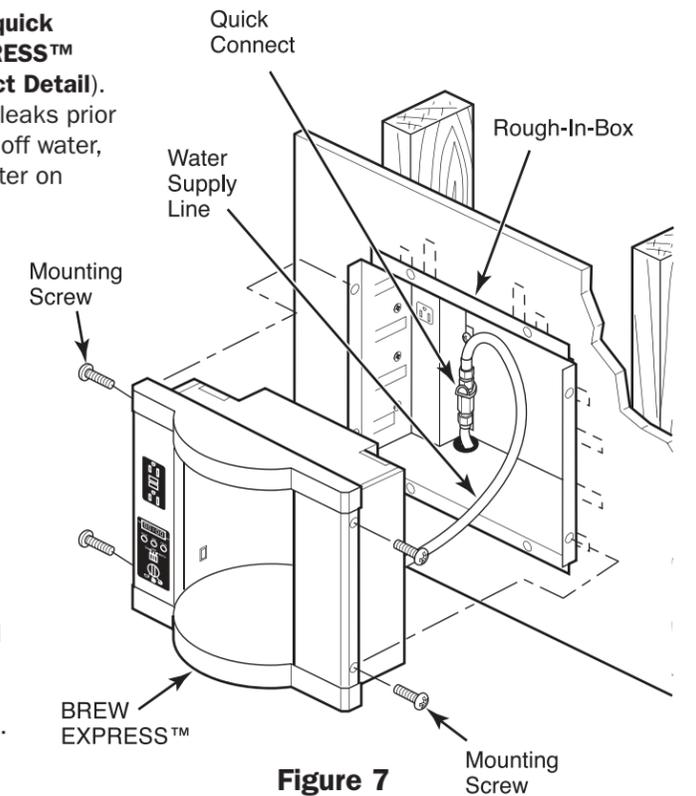

Figure 7
- Quick connector is valved at rough-in-box so water can be turned on prior to connection to coffee maker. Place unit on a towel or cardboard to protect counter surface. Place **BREW EXPRESS™** directly in front of **rough-in box**. Use **quick connector** to connect **water supply line** from **BREW EXPRESS™** to **water supply line** from **rough-in-box** (See **Quick Connect Detail**). Snap connectors together firmly. Turn on water, check for leaks prior to final installation of **BREW EXPRESS™**. If leaking, turn off water, tighten connections or reinstall **quick connector**. Turn water on and check again. See **Figure 7**.